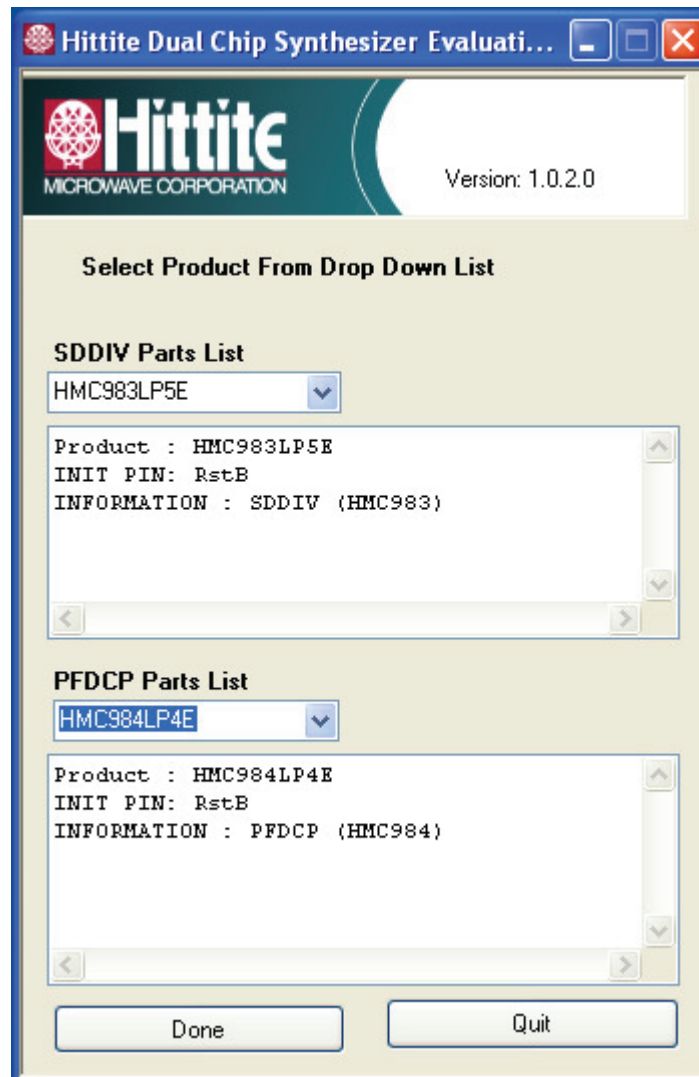

Figure 4. Hittite Dual Chip Synthesizer Product Selection Window
- Hittite dual chip synthesizer product selection window shown in Figure 4 will appear. From the drop down list, select HMC983LP5E & HMC984LP4E, as shown in Figure 4.